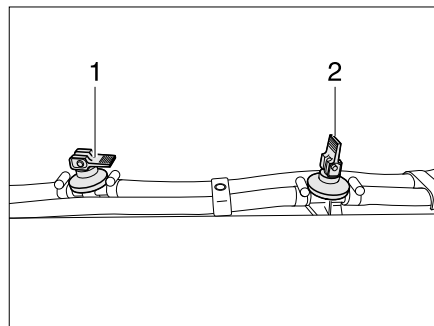

Fig. 356 Drain cock
- Close all drain cocks. Position the rocking lever (Fig. 356,1) horizontally.